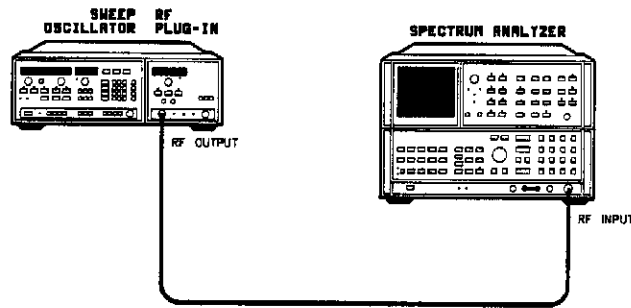

Figure 4-5. Residual FM Test Setup
1. Connect the equipment as shown in Figure 4-5. Press [INSTR PRESET] on both the sweep oscillator and the spectrum analyzer. Allow the equipment to warm up for one hour. Allow one hour warm up time.